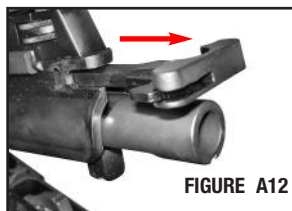

FIGURE A12
- Pull back on the charging handle and bolt assembly (FIGURE A12).